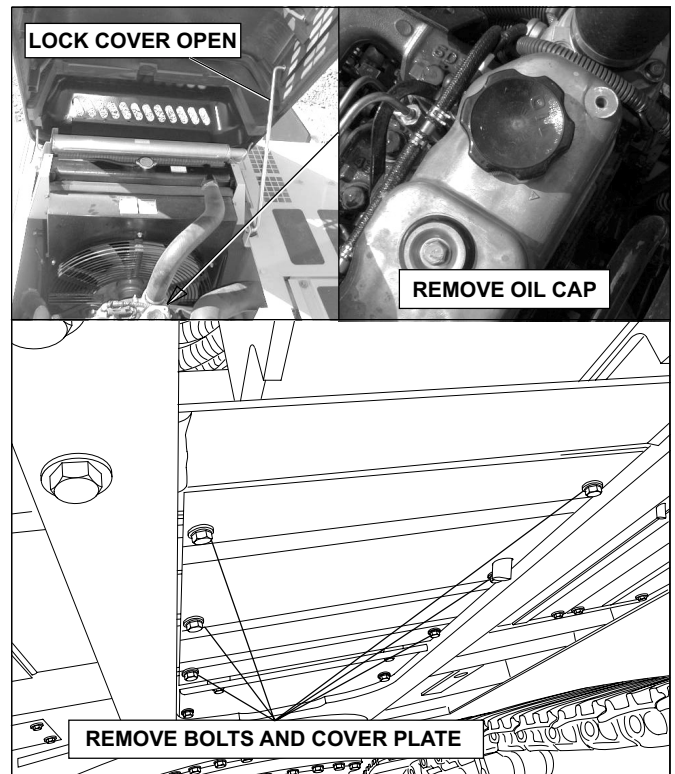

FIGURE 4.24A
2. Raise the engine cover, lock it open, and remove the oil cap. See Figure 4.24A.
3. Remove bolts and engine lower covers. See Figure 4.24A.